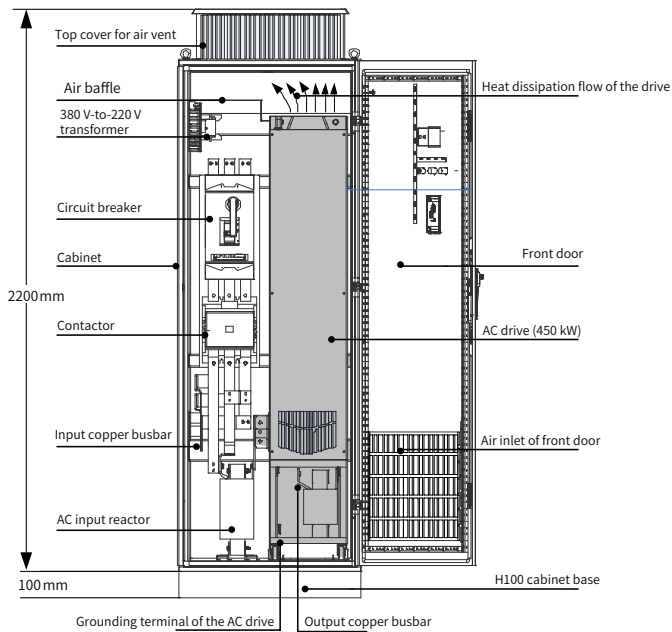

Figure 2-12 Recommended cabinet layout
- ◆ See the cabinet layout diagram (as shown in Figure 2-12) when installing the drive into a cabinet. The cabinet frame is 2200 x 800 x 600 (in mm, including the H200 cabinet top ventilation cover). Install the H100 cabinet base to ensure proper installation of the cabinet. A wind shield must be installed on the cabinet top to avoid circulation of hot air inside the cabinet. Air inlets must be provided at the lower part of the cabinet door.